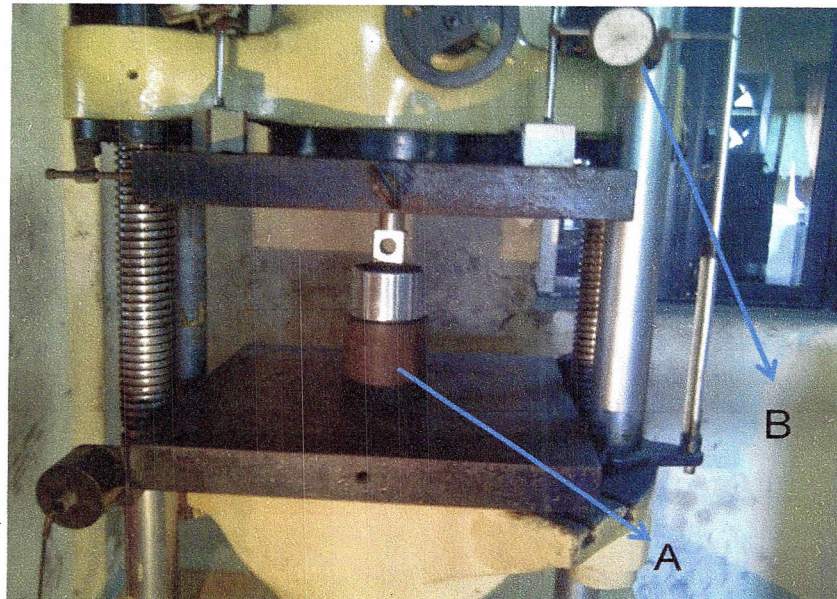

Fig 1
- 4.7.2. Position the Spheriblocs in a press and support the collar on a piece of steel tube "A" as shown in fig.1. Ensure there is sufficient space within the steel tube "A" to allow clearance of the rubber part of the Spheribloc. The collar of the Spheribloc must be supported around its entire perimeter with steel tube "A" while conducting the test.
- 4.7.3. Apply an axial load of 50 kg to the Spheribloc cross-pin .Position the plunger of the dial indicator/gauge as shown in fig. 1, so that it can measure axial movement of cross pin of spheribloc. Now, set the dial indicator to zero.